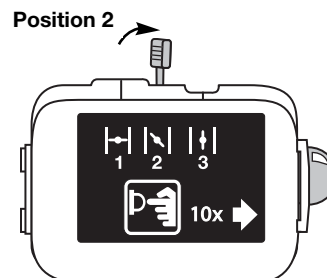

Fig. 9
7. Place the choke lever in Position 2 (Fig. 9).